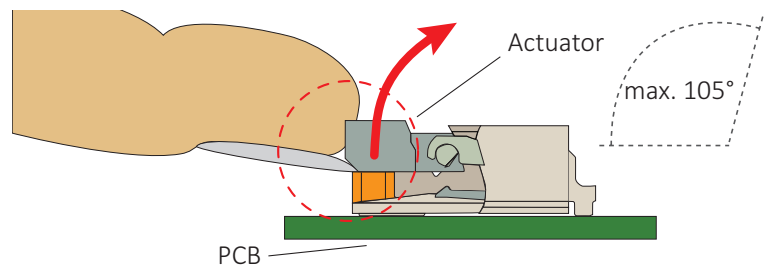

Figure 13: Opening the FPC connector
1. Opening the FPC connector: With your fingernail*, flip the actuator to open position at 105° to the PCB surface, see Figure 13.